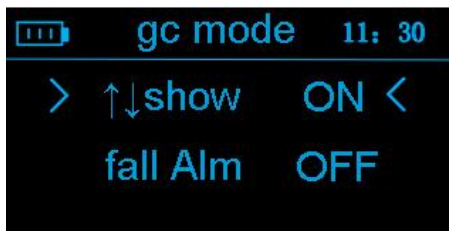
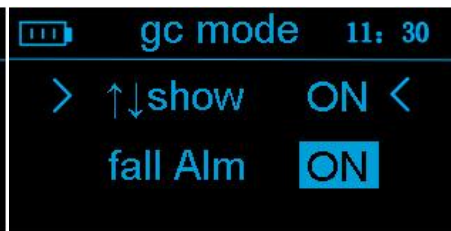

Fig 28
fig 29
Here you can set to rotate the screen and to enable the fall alarm option. After pressing ① to into this item, the screen will display as shown in Figure 28:
Under the screen in fig. 28, press \triangle and ∇ to switch the item "↑↓show" and "fall Alm". Press $\textcircled{1}$ to confirm the current item then text becomes highlighted, as shown in Figure 29. Press \triangle and ∇ to change the state of ON or OFF, and press $\textcircled{1}$ to save the settings.